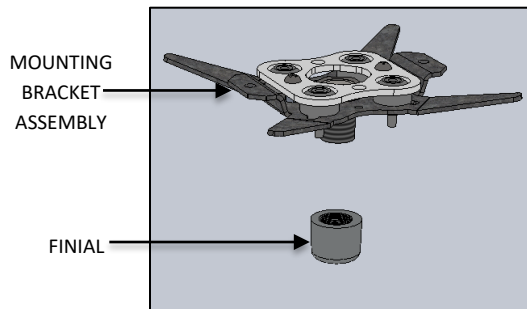

FIG. 5 - MOUNTING KIT CONTENTS
- b. MOUNTING KIT (as shown in FIG. 5)